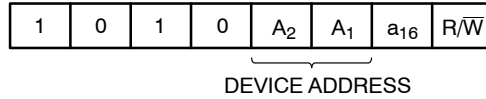

Figure 3. Slave Address Bits
The Master initiates data transfer by creating a START condition on the bus. The Master then broadcasts an 8-bit serial Slave address. The first 4 bits of the Slave address are set to 1010, for normal Read/Write operations (Figure 3). The next 2 bits, A₂, A₁, select one of 4 possible memory devices connected on a single I²C bus. The A₂ and A₁ bits must match the state of the external address pins. The seventh bit, a₁₆ is the most significant internal address bit. The last bit, R/ \overline{W} , specifies whether a Read (1) or Write (0) operation is to be performed. To select an internal memory location (data byte) a 17-bit address word is required: a₁₆ bit from the Slave address byte followed by two address bytes.